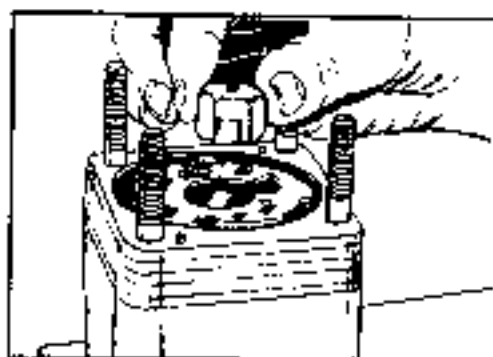

FIGURE 81.
- 33 Place hex drive assembly (10), pin side up, through the hole in the isolation manifold (15). The slot in the hex drive must be engaged with the small tang of the drive link (18). Turn the input shaft/wheel tube to assist the engagement. See figure 81.